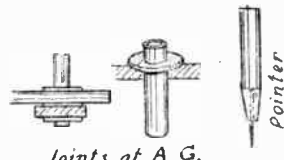

Fig. 4—Fixing joints and pointer
Figs. 4 and 5—Brads for naval type
The joints at (A), (G) are shown in Fig. 4, the left side illustration depicting a side view of the joints and next to it a detail of their construction. For each a 1 $\frac{1}{2}$ in. piece of brass tubing will be needed, with an internal diameter of $\frac{1}{2}$ in. or $\frac{3}{8}$ in. To each piece of tubing, three thin metal washers will be required,
end, filed to a blunt point. It is shown in Fig. 4.